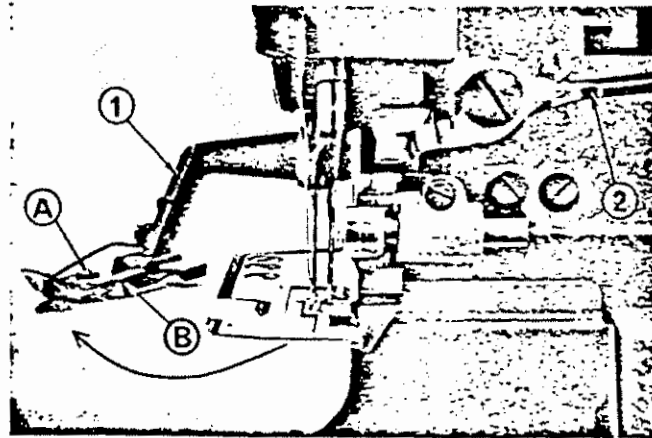

Fig. 17
If you want to release the presser arm ① Fig. 17 to your left, push down the presser foot lifting lever ② and swing the arm ① to your left. To return the arm to the original position, keep the lifting lever ② down and return the arm to the former position.
The overlock width can be adjusted from 2-5 mm ( $1/16 \sim 3/16''$ ) by exchanging the parts, but the parts that come with this machine are all standard types of 3-4 mm ( $1/8 \sim 5/32''$ ) overlock width. To adjust this overlock width, loosen the stitch tongue set screw ①, Fig. 17. If the stitch tongue ② is moved to the right (pulley side) it will become wider and if moved to the left, it will become narrower. When the overlock width is changed, the thread tension, will change also, so remember to adjust the tension, as well.